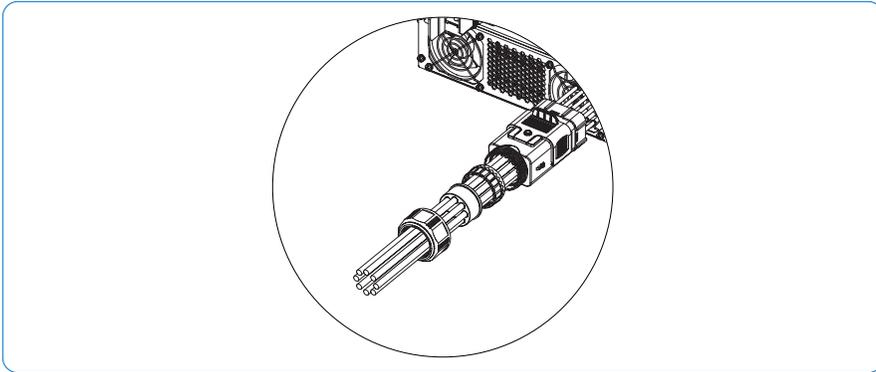

Figure 5-13
3) Loosen the Gland of the waterproof cover, but do not remove the Gland. Pass the AC cables through the Gland, the waterproof ring and the waterproof cover in sequence, as shown in Figure 5-13.